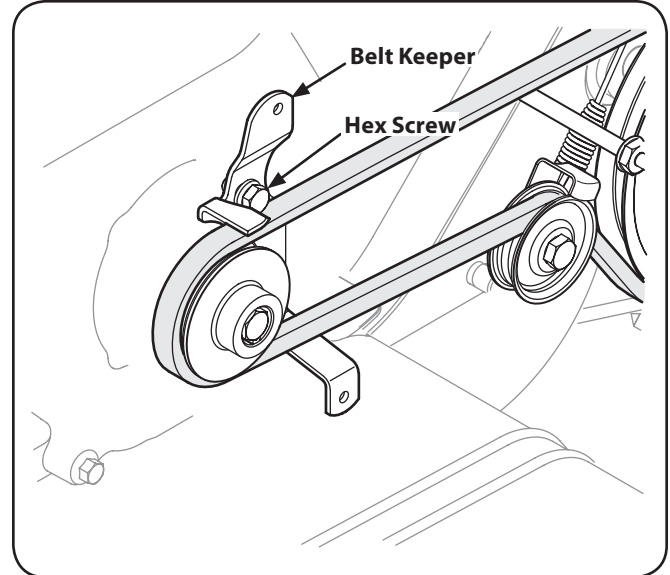

Figure 7-3
4. Using a 1/2" wrench, remove the hex screw securing the belt keeper to the engine. See Fig. 7-3.